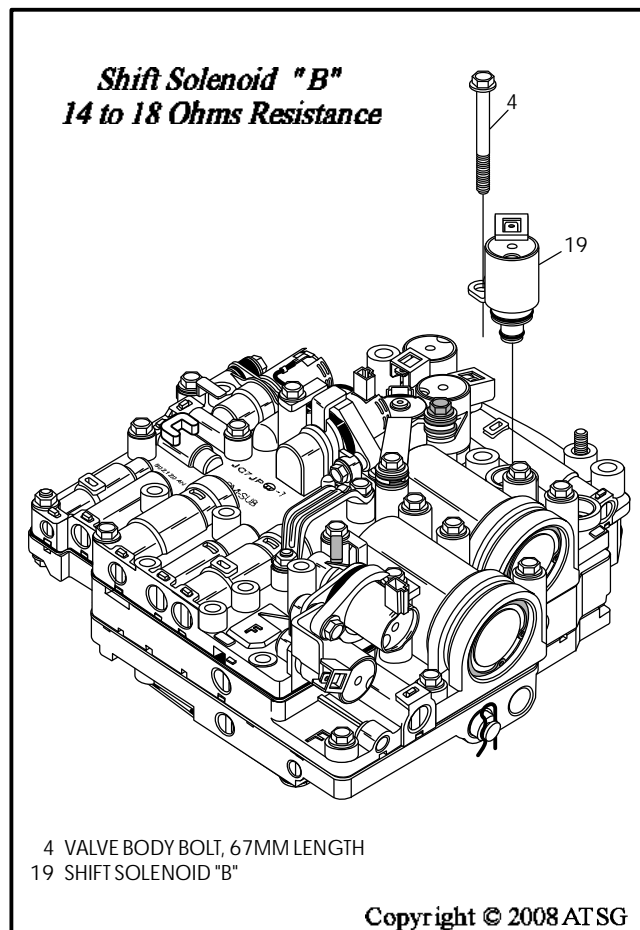

Figure 182
70. Install new "O" rings, lube with small amount of proper ATF, and install shift solenoid "B" into the valve body, using a 67mm bolt, as shown in Figure 182.